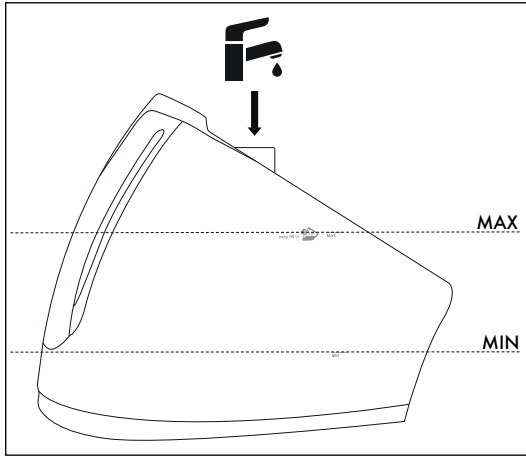

Fig. 4
- 3) Fill the water tank ⑩ through the filler opening ⑨ up to at least the **MIN** marking with water. Do not fill above the **MAX** marking in the water tank ⑩ (see fig. 4).